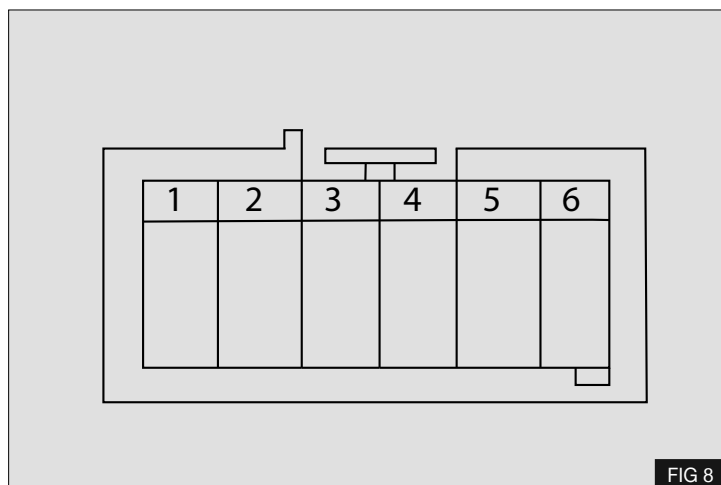

FIG 8
3. The fast idle is activated by connecting pin 1 of the 6 way connector to earth – Fig 8